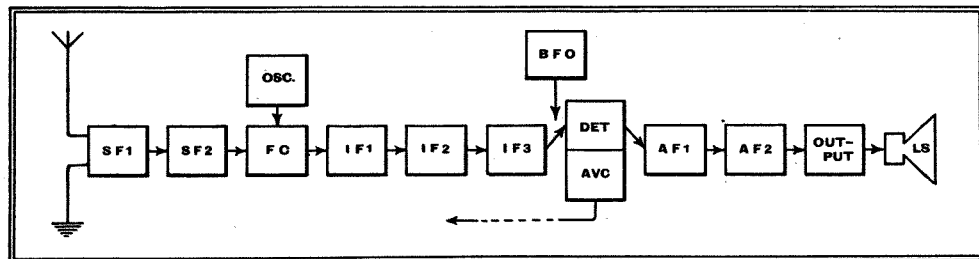

Fig. 1.—Typical circuit arrangement of a communication receiver.
used have generally been on the lines of the block circuit diagram in Fig. 1, the panel fittings being: (1) Main tuning knob and dial; (2) band spread tuning knob and dial; (3) HF gain control; (4) IF selectivity control; (5) AF gain control; (6) crystal gate on-off switch; (7) crystal balancer; (8) BFO switch; (9) BFO pitch control; (10) tone control; (11) send-receive switch; (12) AVC in-out switch; (13) tuning meter; (14) phone jack; (15) mains switch.